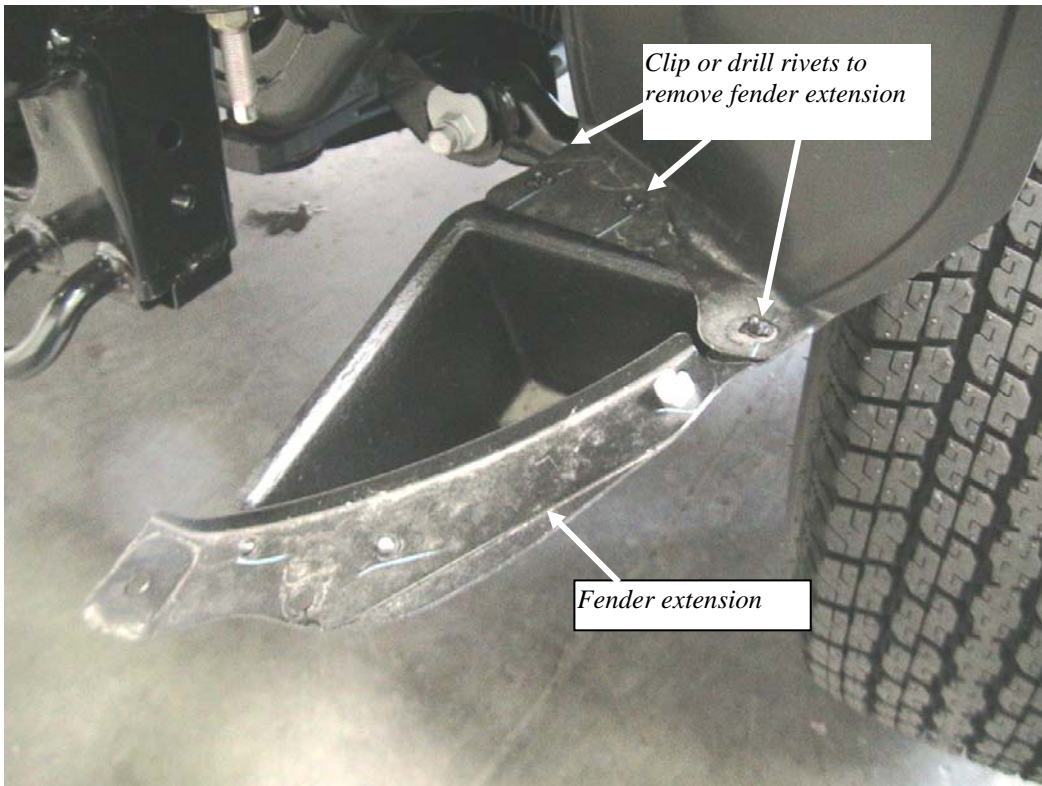

Figure 12 Left side fender extension
12. Remove the molded plastic inner fender extensions by clipping or drilling out the rivets holding them to the bottom of the inner fenders. **Figure 12**